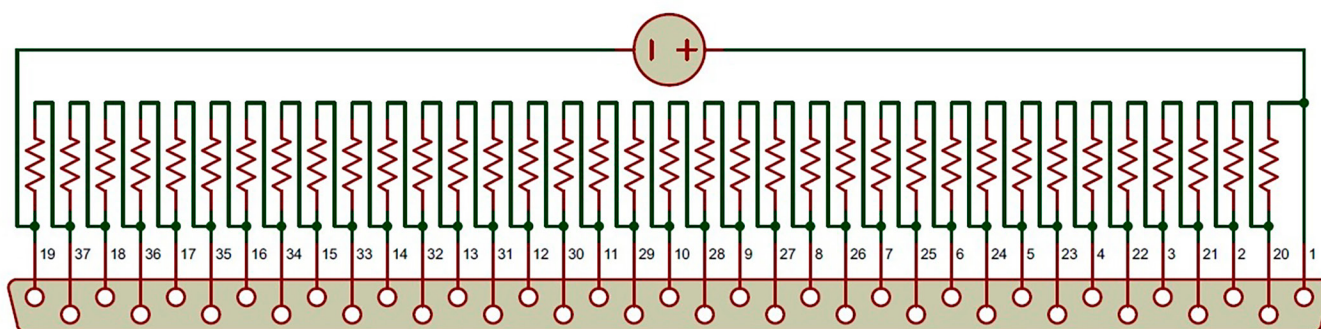

Figure 3. Resistor Divider String Connection D-SUB37 (DB-37) Female Receptacles Schematic of Figure 2. Includes the Power Supply Connection
Carefully connect thirty-six (36) 100Ω resistors onto the DB-37 female receptacle connector between each CPIN input from position 19 to position 1 as shown in Table 1, Figure 2 and Figure 3. Provide a stack-equivalent power supply connection to position 1 (positive) and position 19 (negative). The power supply may be adjusted to provide the desired nominal fuel cell voltage (e.g. 25.2V will be 0.7V per cell).